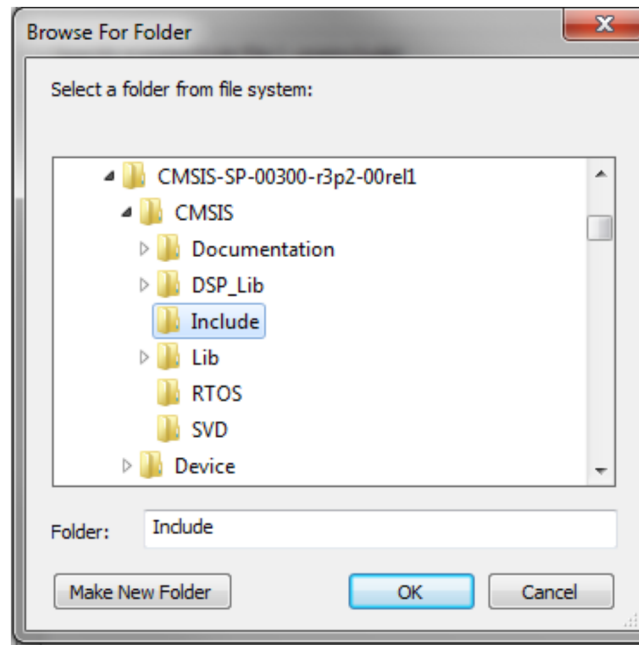

Figure 22. Using the File System Option to Add the Base CMSIS Include Directory to the Compiler's #include Search Path
8. Look for the *Add* button to *#include* search path (*--include_path, -I*) field in the *Include Options* section (see Figure 22).